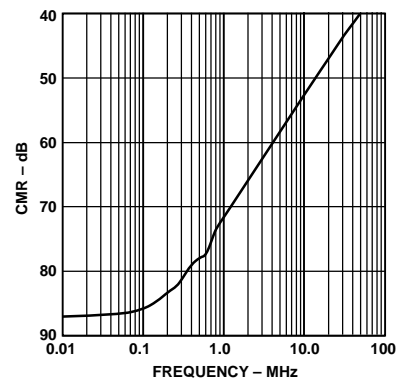

Figure 16. CMR vs. Input Frequency (Input Span = 2 V,  $V_{CM} = 2.5$  V)
Differential operation requires that VINA and VINB be simultaneously driven with two equal signals that are in and out of phase versions of the input signal. Differential operation of the AD9241 offers the following benefits: (1) Signal swings are smaller and therefore linearity requirements placed on the input signal source may be easier to achieve, (2) Signal swings are smaller and therefore may allow the use of op amps that may otherwise have been constrained by headroom limitations, (3) Differential operation minimizes even-order harmonic products and (4) Differential operation offers noise immunity based on the device's common-mode rejection as shown in Figure 16.